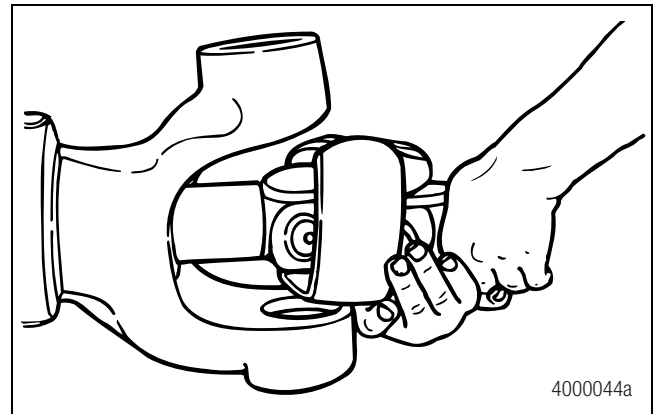

Figure 3.23
1. Remove the axle shaft double-cardan joint assembly from the carrier housing by pulling the assembly STRAIGHT out of the carrier housing. Do not disassemble the universal joints, which will void the Meritor warranty. Figure 3.23.